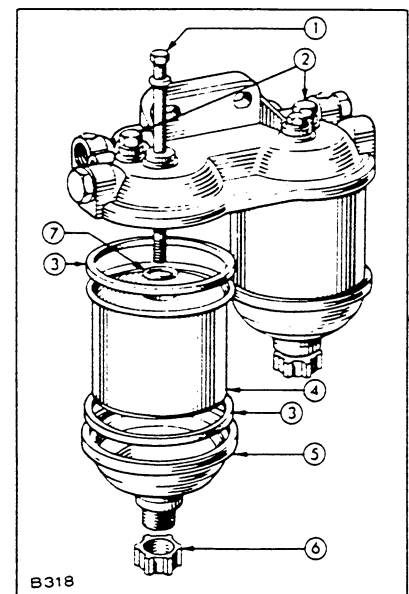

FIGURE 22. FUEL FILTER
1. Open bleed screw on the inlet side of fuel filter. See Figure 22.
4. Open bleed screw on the outlet side of filter. See Figure 22.